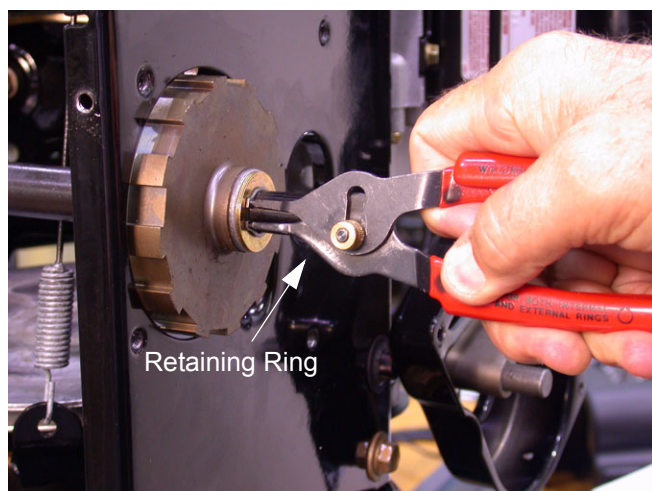

Figure 26
11.4. Using snap ring pliers, remove the retaining ring. See Figure 26.